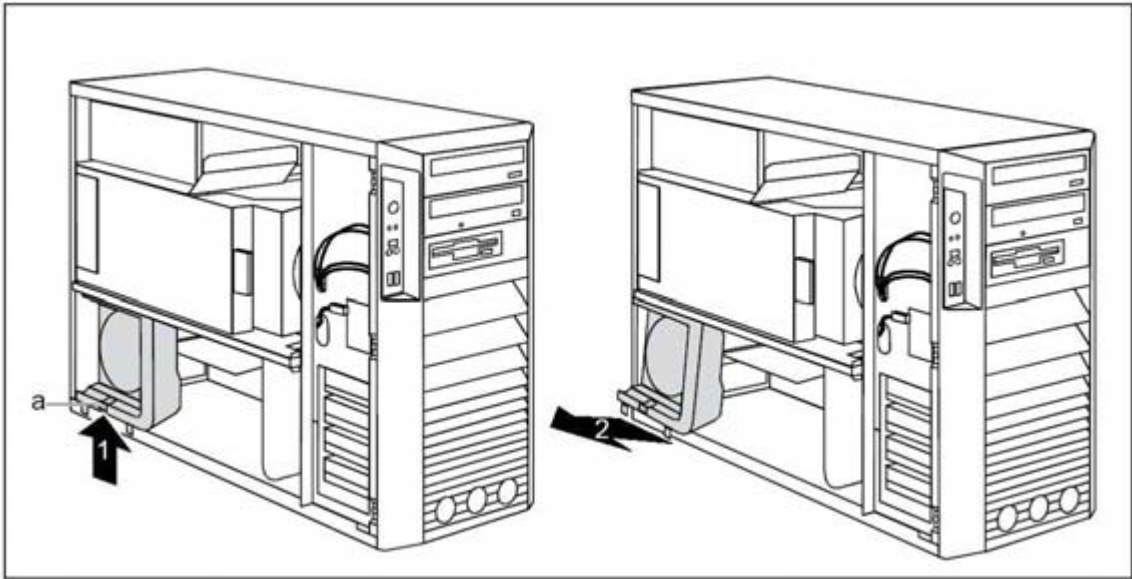

Fig. 60: Removing the side fan M450_
3. Release the side fan by pressing the locking hook (a/ Fig. 60 / p. 106) in the direction of the arrow (1/ Fig. 60 / p. 106).
4. Pull the bottom edge of the side fan out of the casing (2/ Fig. 60 / p. 106) in the direction of the arrow.